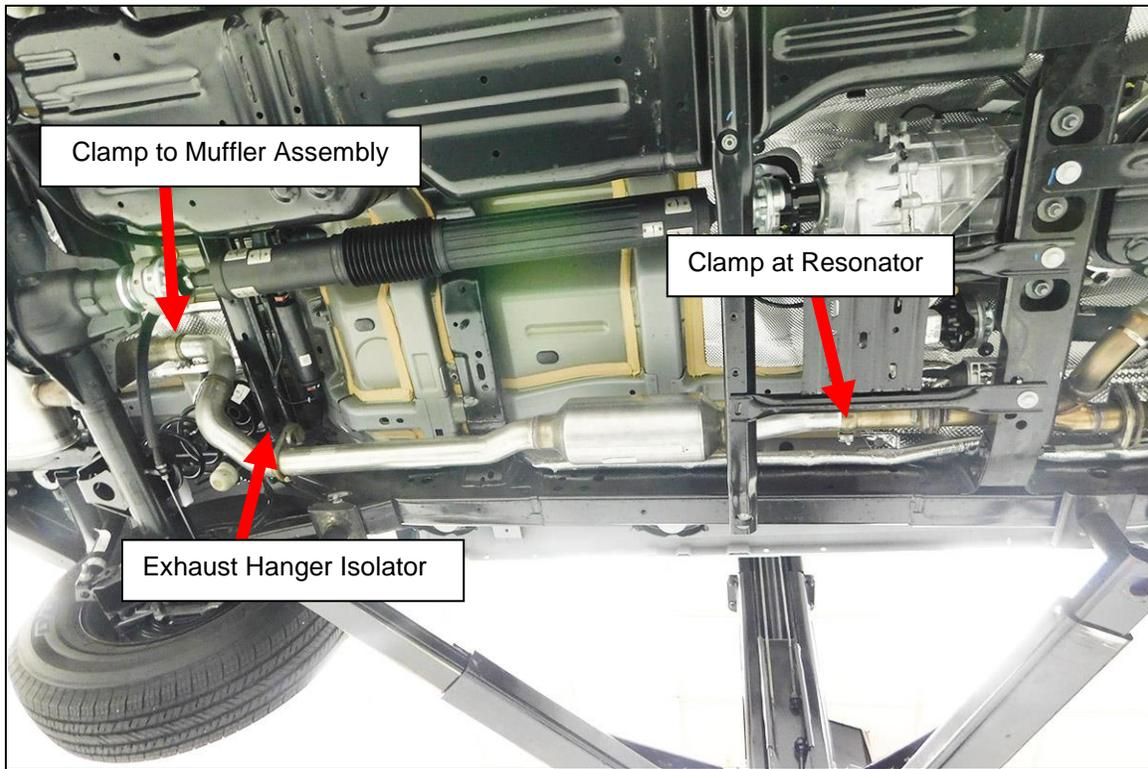

Figure 1
5. Remove the bolt at the clamp securing the resonator and exhaust to the OEM Y-Pipe (**Figure 1**).
7. Remove the isolator from the hanger rod on the exhaust pipe after the resonator. Spray the isolator with WD-40® to simplify this process (**Figure 1**).